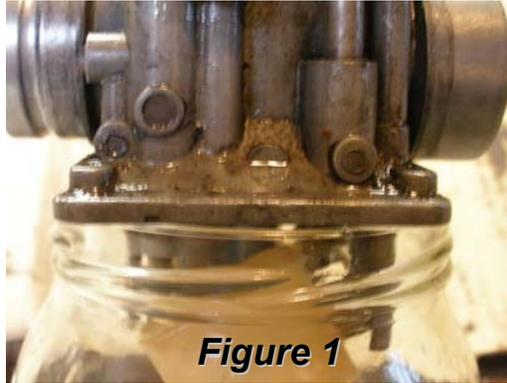

Figure 1
- **Put Carburetor Base on Half-Liter Jar, so Float Does Not Touch the Walls of the Jar (Figs. 1 and 2)**